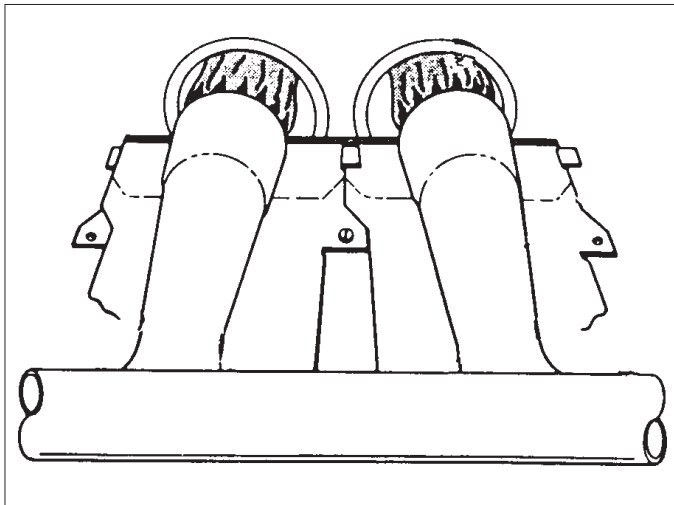

Figure 2. Burner Inspection
2. Upon completion of the installation, inspect the alignment of the burners with the heat exchanger tubes. The center of the burners should be aligned with the center of the tubes. See Figure 2.
7. After the flame ignites, visually inspect the burner assembly to ensure that the flame is drawn directly into the center of the heat exchanger tube, as shown in Figure 2. The end of the flame will be out of sight around the bend of the heat exchanger tube. In a properly adjusted burner assembly, the flame color should be blue with some light yellow streaks near the outer portions of the flame.